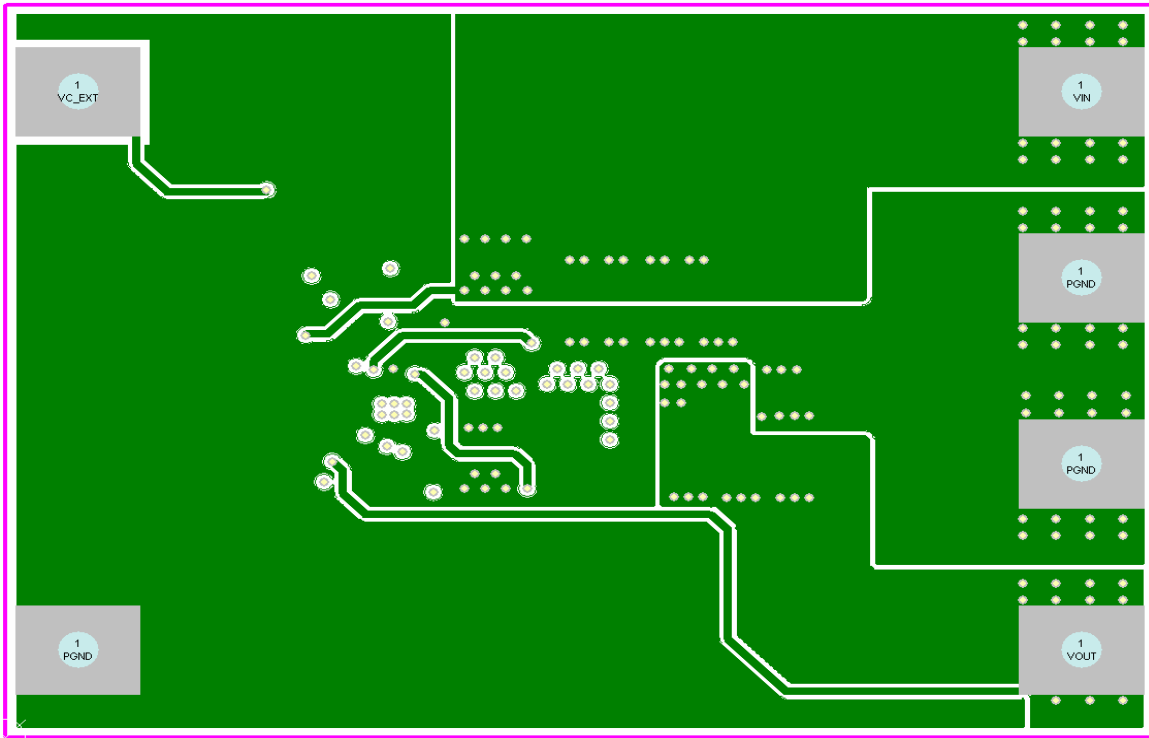

Figure 3c: IRPP3624-12A Reference Design mid-layer2 layout.
4. The feedback track from the output V_{OUT} to FB pin of the IC is routed as far away from noise generating traces as possible in mid-layer 2 as shown in figure 3c.